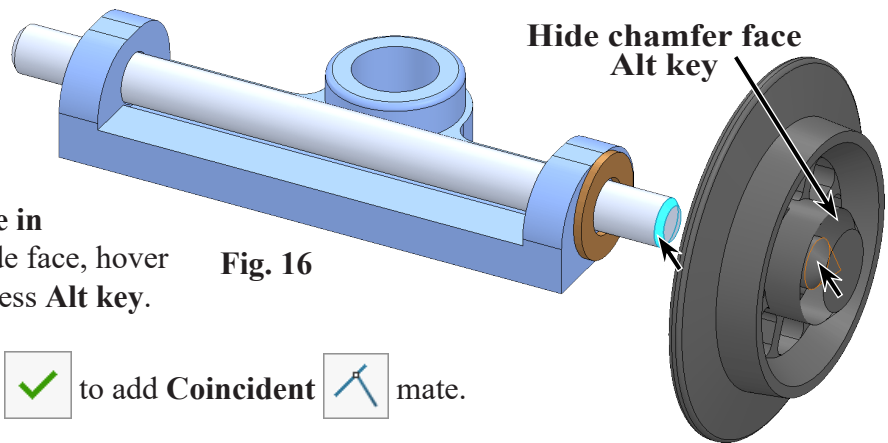

Fig. 16
Step 1. Click **chamfer** at **end of Axle** and **hide chamfer face** of **Wheel hub**, click **chamfer** at **end of hole in Wheel**, Fig. 16. To hide face, hover cursor over face and press **Alt** key.